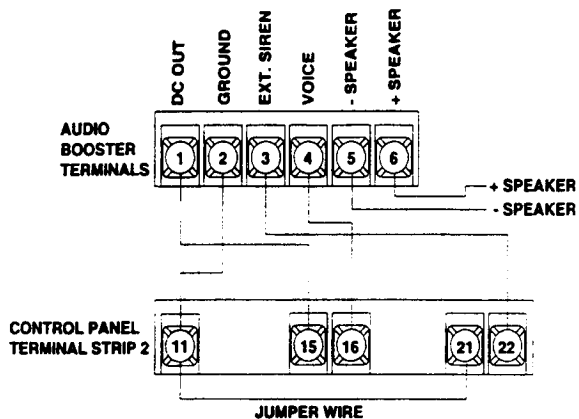

Figure 3. Wiring Connections Between the Audio Booster and Panel
- 1) Connect terminals 1-4 of the booster to terminals 11, 15, 16, and 22 on terminal strip 2 of the Panel as shown in Figure 3.
- 2) Connect a jumper wire on terminal strip 2 of the Panel from terminal 11 to terminal 21 as shown in Figure 3.